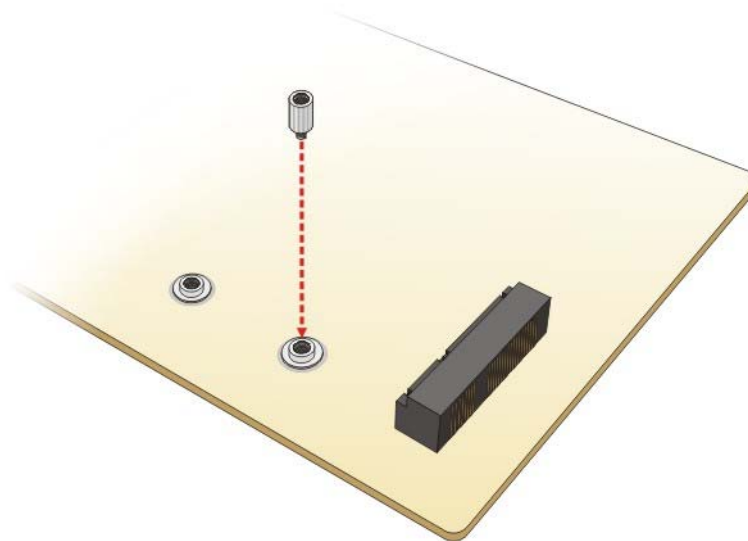

Figure 4-6: Installing the Standoff
Step 4: Install the standoff to the screw hole for the half-size PCIe Mini card. Install the previously removed standoff to the screw hole for the half-size PCIe Mini card (Figure 4-6).